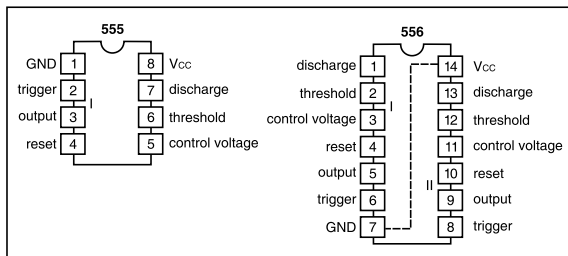

Fig. 3.1: Configuration of 555 and 556 timer ICs.
**(a) 555 timer and 556 dual timer:** A 555 IC (prefix LM, SE etc not used here) is known as a real work-horse IC employed for numerous applications, while 556 comprises two identical similar timers. Their pinouts and signal names are shown in Fig.3.1.